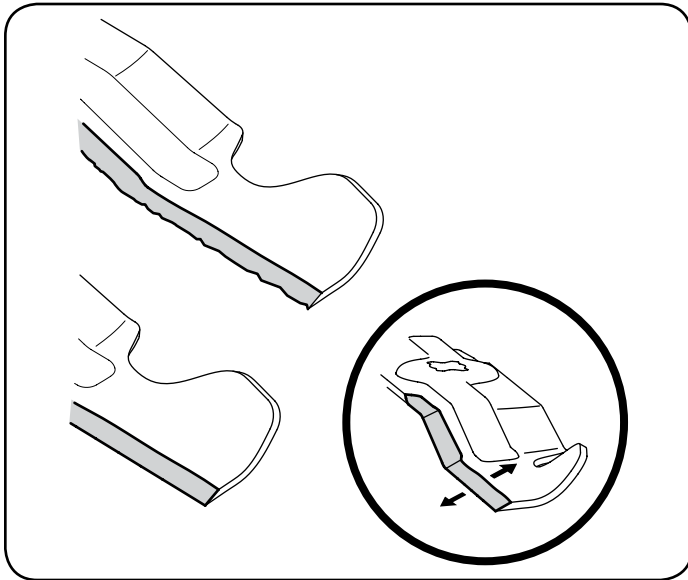

Figure 32
3. To properly sharpen the cutting blades, remove equal amounts of metal from both ends of the blades along the cutting edges, parallel to the trailing edge, at a 25-30° angle. See Figure 32.